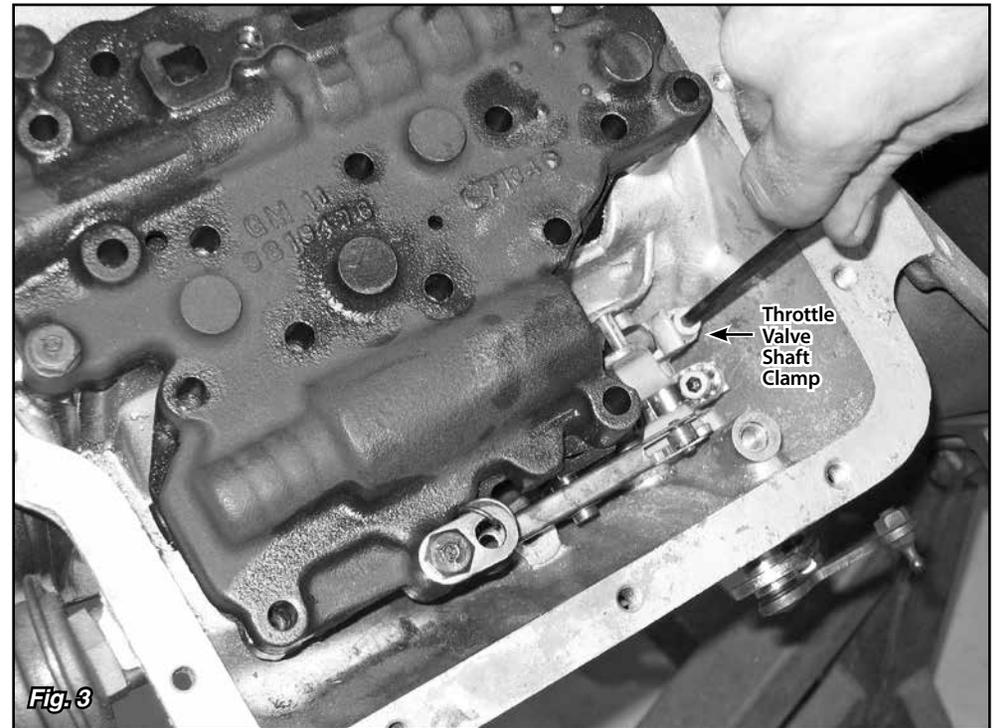
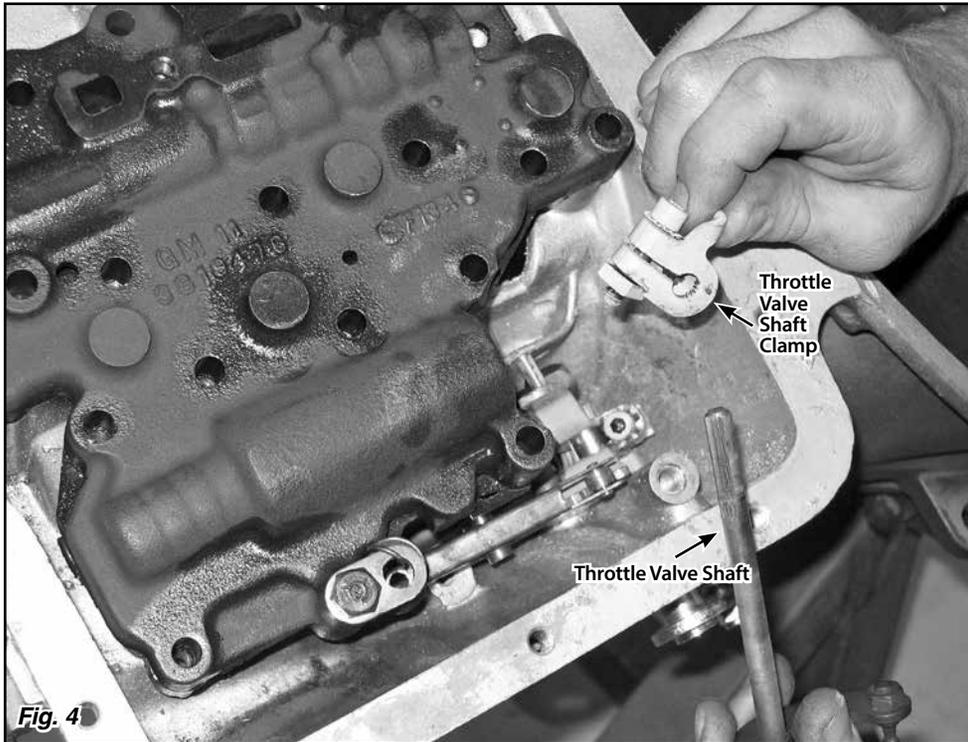

Fig. 3
Fig. 4
**Step 4:** Loosen the bolt on the throttle valve shaft clamp, but do not remove the bolt. Slide the throttle valve shaft out of the transmission and remove the throttle valve shaft clamp. Fig. 3 and Fig. 4